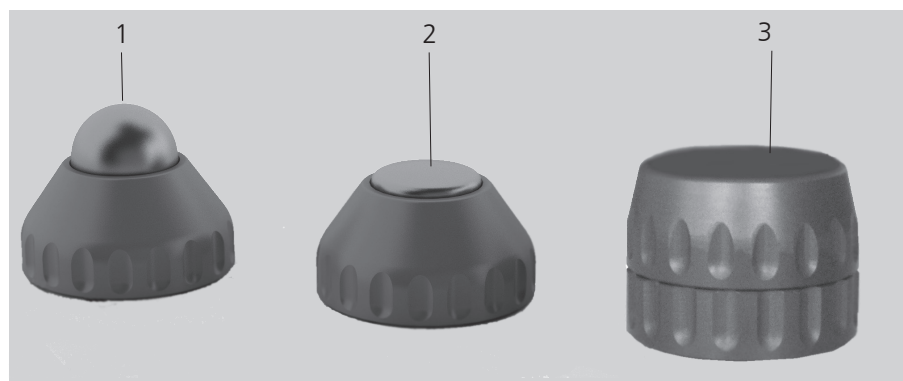

Fig. 1-2 V-ACTOR transmitters
- with the V-ACTOR spherical transmitter 10 mm (V10) Fig. 1-2/1
- with the V-ACTOR transmitter 25 mm (V25) Fig. 1-2/2
- with the V-ACTOR transmitter 40 mm (V40) Fig. 1-2/3